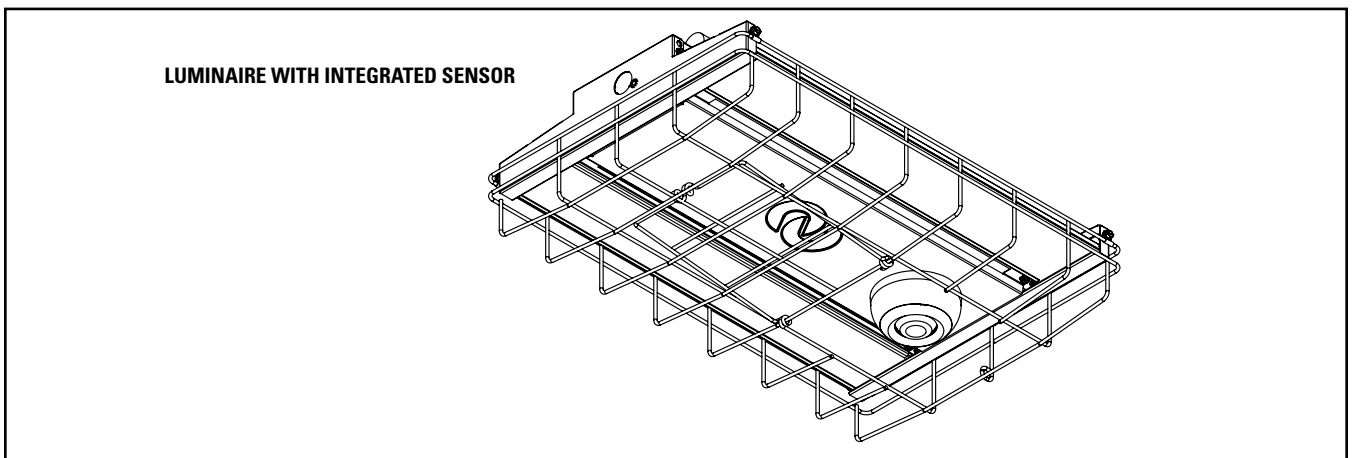

**Figure 5.**
5. Locate and center the guard to the outside of the fixture housing with the clips aligned with the holes on the sides of the end plates. (Figure 5)